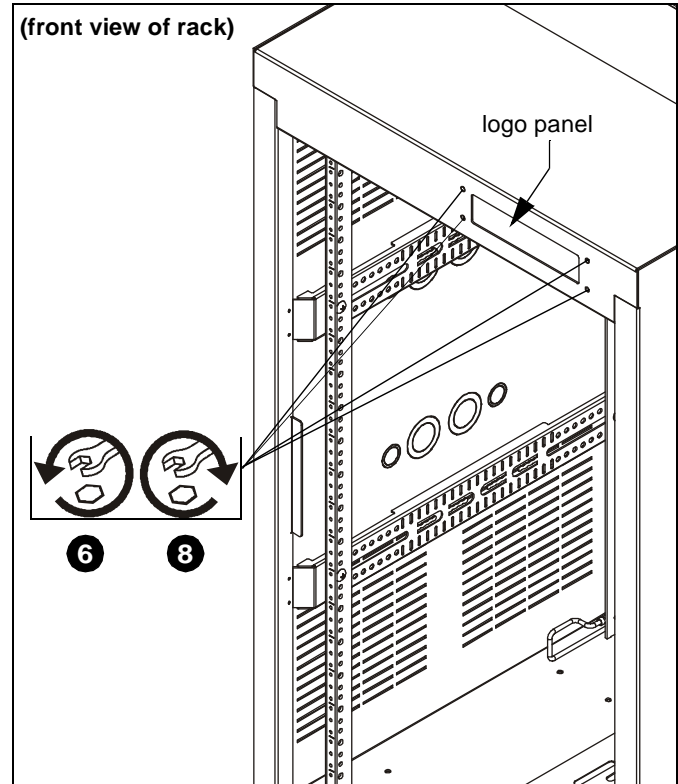

Figure 5
6. Change optional logo panel by removing and saving 4 nuts from studs at inside top of front. (See Figure 5)
7. Remove blank panel and replace with optional personalized logo panel (not included). (See Figure 5)